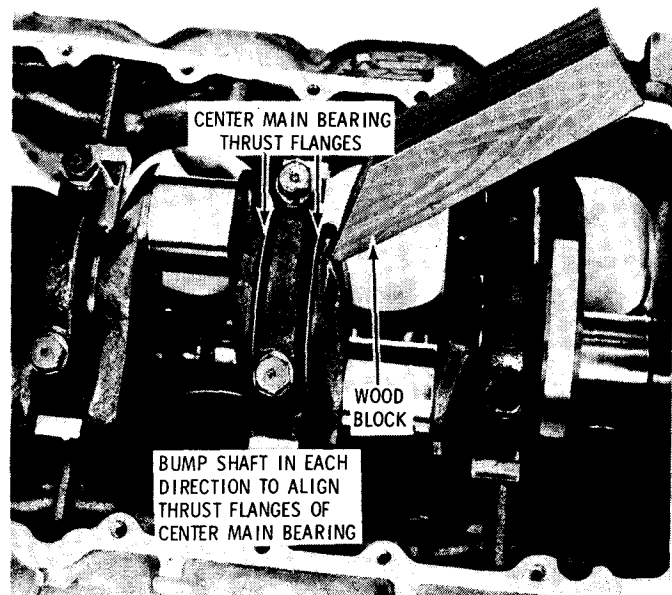

Figure 79—Aligning Center Main Bearing Flanges
5. With a block of wood (figure 79) bump shaft in each direction to align thrust flanges of center main bearing.